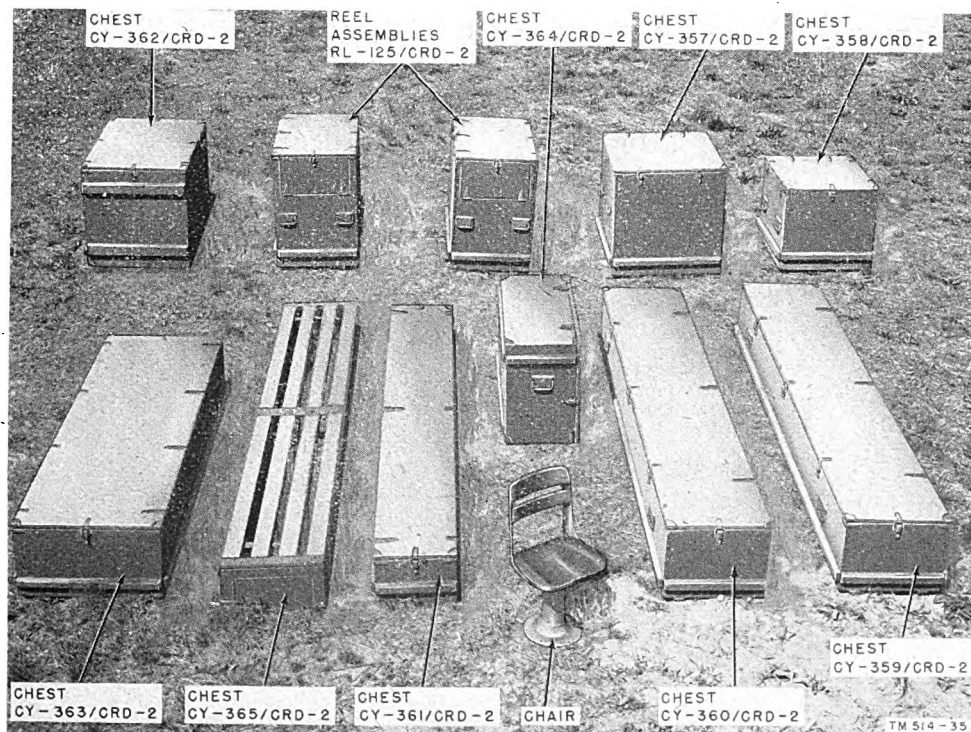

Figure 17. Radio Set AN/CRD-2, showing chests and crates which contain the equipment.
b. COUNTERPOISE MX-313/CRD-2 AND MAIN CABLES. Place Case CY-365/CRD-2 (fig. 17), containing the counterpoise, at the antenna site.
c. TOOLS FOR ORIENTATION. Place Chests CY-363/CRD-2 and CY-364/CRD-2 (fig. 17), containing the orientation tools and spare parts, about 15 feet away from the shelter location.